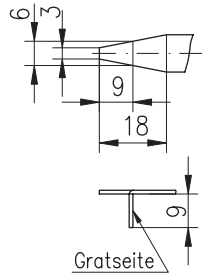

Fig. 10
- Prepare cover strip (fig. 10).